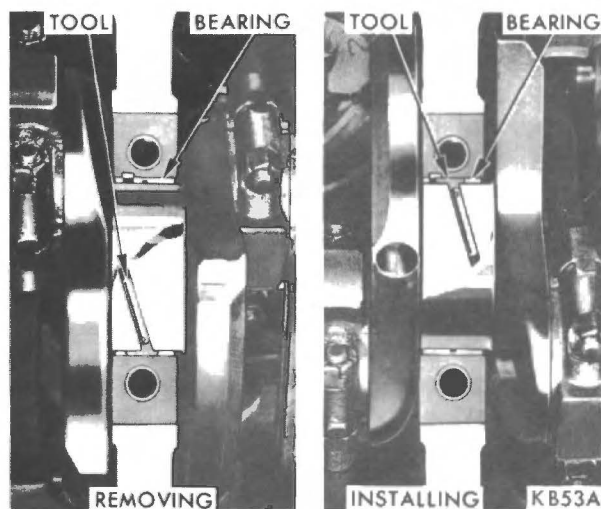

Fig. 41 - Removing and installing upper main bearings (Tool C-3059).
(1) Remove the oil pan and check the bearing cap numbers.
(2) Remove bearing caps one at a time. Remove upper bearing by inserting Tool C-3059 (see Fig. 41) into the oil hole on crankshaft.
(3) Slowly rotate crankshaft clockwise, forcing out upper bearing.